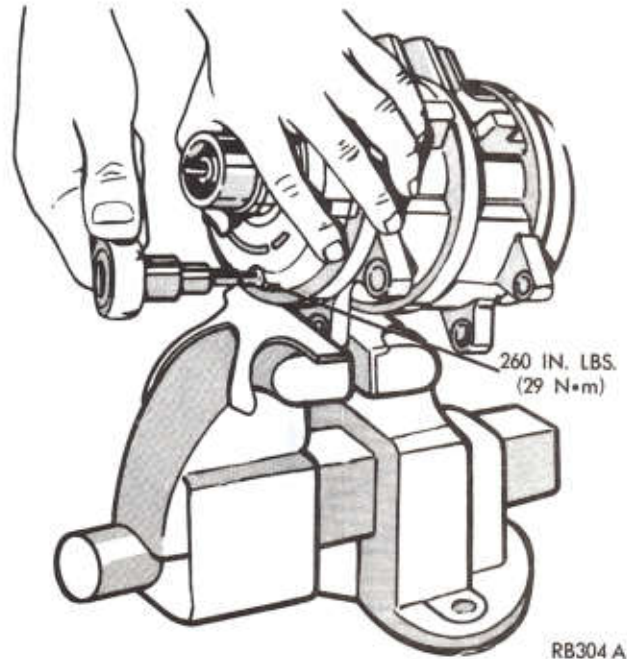

Fig. 2—Removing Compressor thru Bolts
- (2) Remove six (6) compressor thru bolts using a 6 mm allen wrench (Fig. 2).